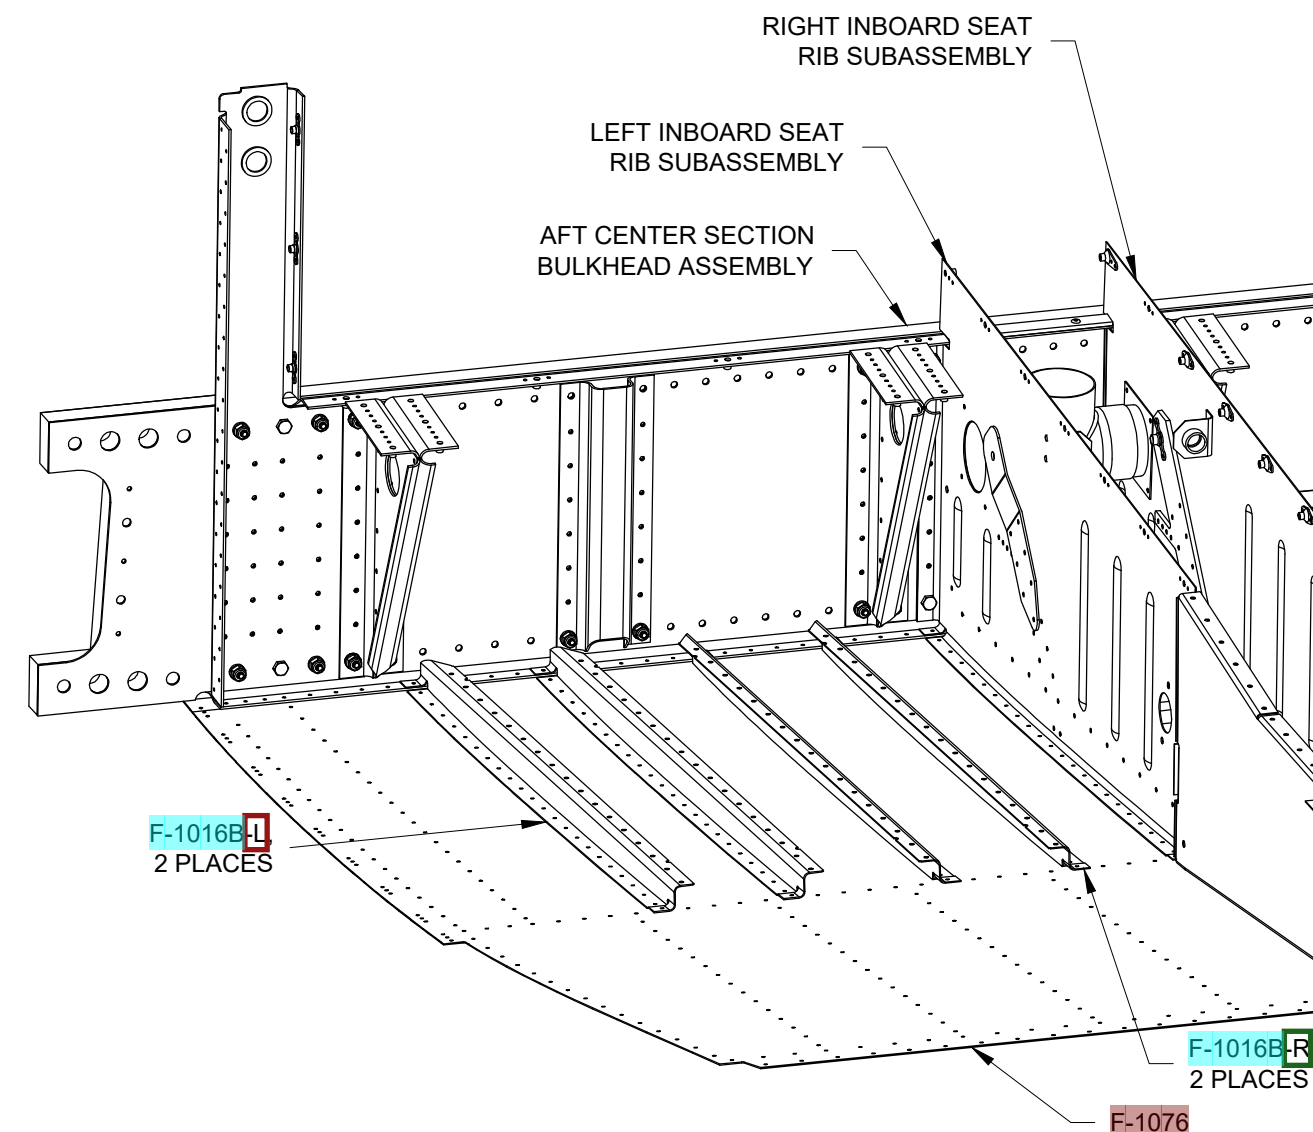

FIGURE 2: FLOOR STIFFENER INSTALLATION
Step 2: Cleco the F-1016B-L and R Floor Stiffeners to the F-1076 Center Bottom Skin, Aft Center Section Bulkhead Assembly, and Rear Spar Bulkhead Assembly (see Figure 2). Final-Drill #40 all holes common between the F-1076 Center Bottom Skin or the F-1077 Mid Bottom Skin and the underlying ribs and bulkheads. Final-Drill #30 the holes in the upper flanges of the floor stiffeners.
Step 4: Repeat Step 1, cleco the F-1016B-L and R Floor Stiffeners in place then rivet the skins to the ribs, bulkheads and floor stiffeners per the rivet callouts in Page 26-8, Figure 1 and Page 26-8, Figure 2.